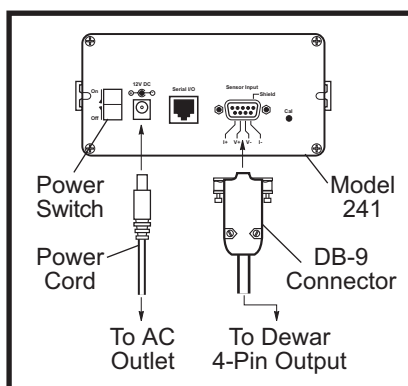

Figure 4-38. Model 241 Liquid Helium Level Monitor Connections
1. Locate the cable with a 4-pin connector on one end and a DB-9 connector on the other end. Plug the DB-9 connector into the Model 241 DB-9 port (Figure 4-38). Plug the 4-pin connector into the 4-pin output on the superconducting magnet dewar (see Figure 4-34).
2. Plug the power adapter cable into an AC outlet. Plug the other end into the Model 241 +12 VDC power port (Figure 4-38).